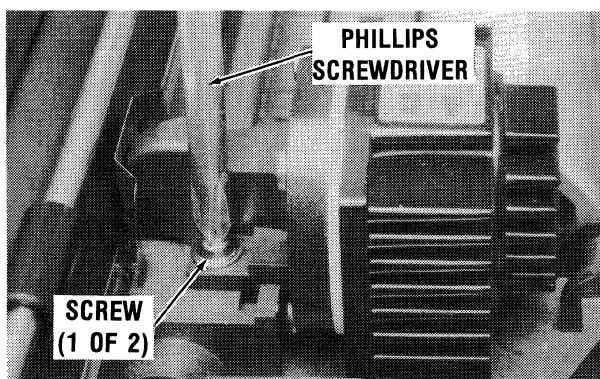

Figure 5-1 Print Head Mounting Screws (2)
2. Loosen 2 phillips-head screws on print head mounting bracket (Figure 5-1). No need to remove the screws completely.